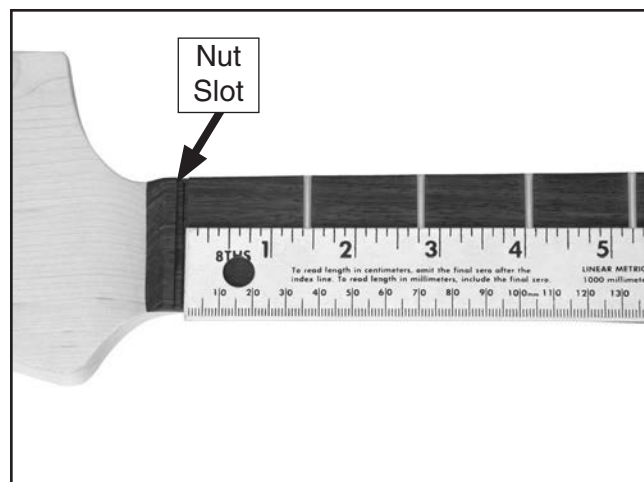
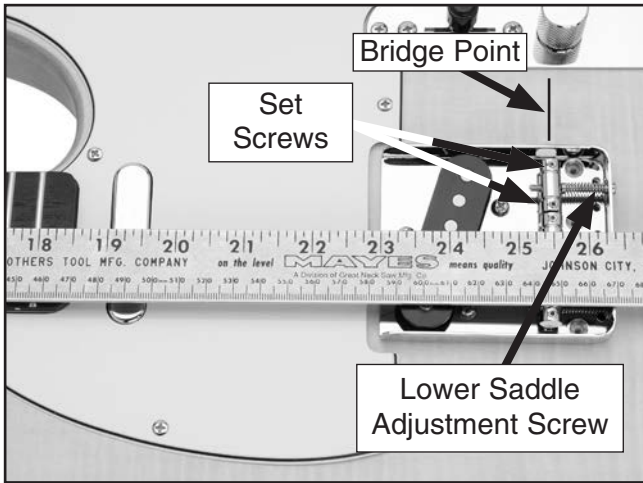

Figure 15. Measuring 25½" from nut along center line.
Figure 16. Bridge point and high E saddle adjustment screw.
7. Using the straightedge, measure 25½" from the fretboard side of the nut slot (**Figure 15**) along the center line to the bridge point (**Figure 16**), and mark this location on the guitar.
8. Using a Phillips head screwdriver, turn the lower saddle adjustment screw so the set screws shown in **Figure 16** are centered over the bridge point.